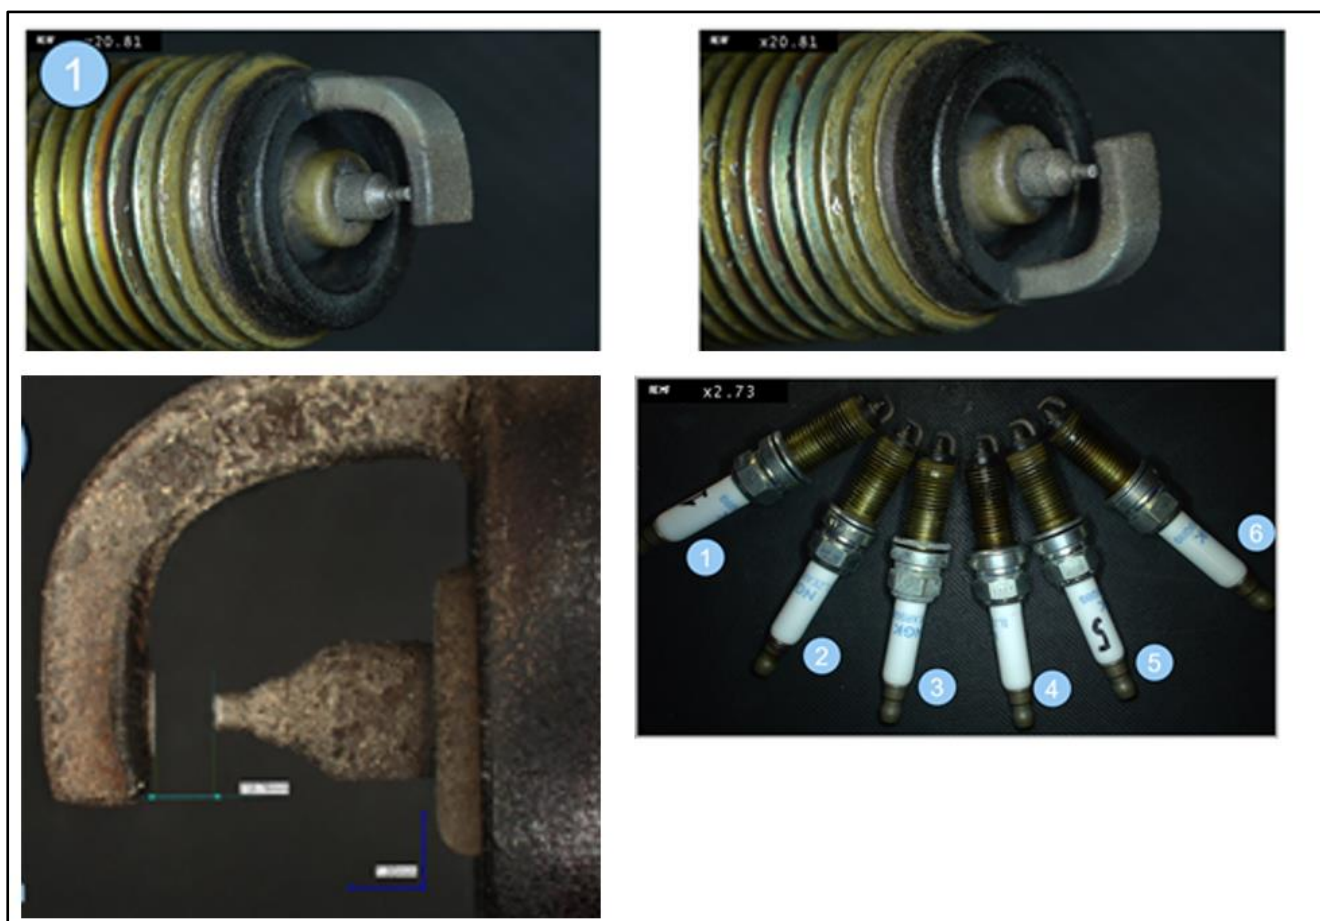

Figure 3: Examples of detailed pictures of all the Lateral Spark Plugs (bottom right) and detailed pictures (top and bottom left).
8. Take 3 detailed photos of each Spark Plug. (See examples of detailed pictures in **Figure 3** below)